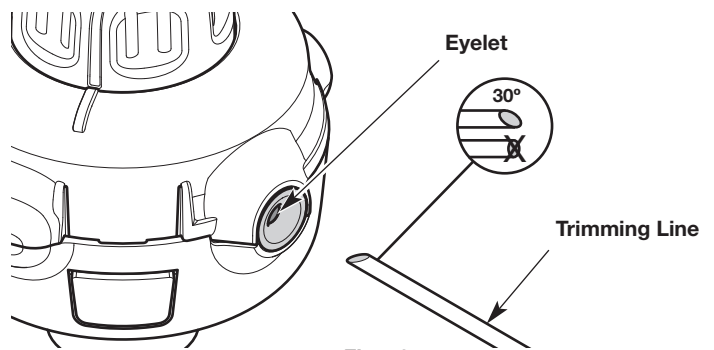

Fig. 19
- Cut two 10-foot (3.0 m) lengths of new trimming line. Cut one end of each line at a 30 degree angle (Fig. 19).
- Insert one of the lines into an eyelet on the cutting head (Fig. 19). Use the angled end and push the line in about 3 inches (7.5 cm). Repeat this process with the other line and remaining eyelet.